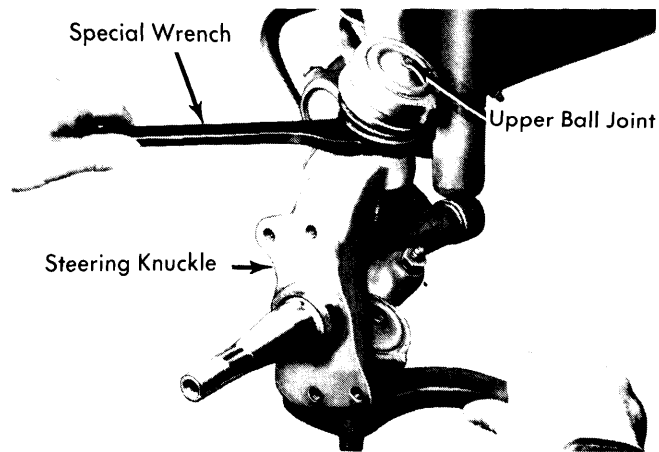

Fig. 2 Removing Upper Ball Joint from Steering Knuckle
2) Remove splash shield from steering knuckle. Take off lower ball joint nut and press joint from knuckle. Remove upper ball joint nut, then with suitable wrench, turn camber eccentric adjusting bushing until joint is free from knuckle. See Fig 2.